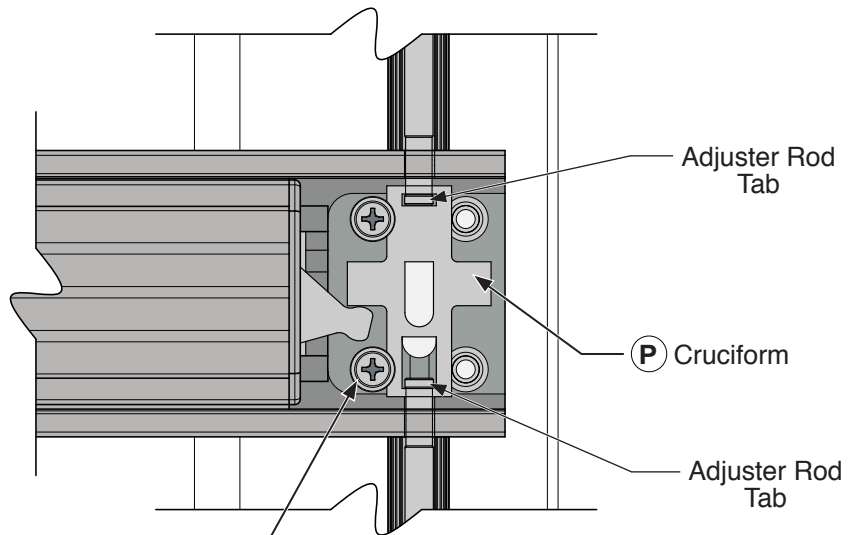
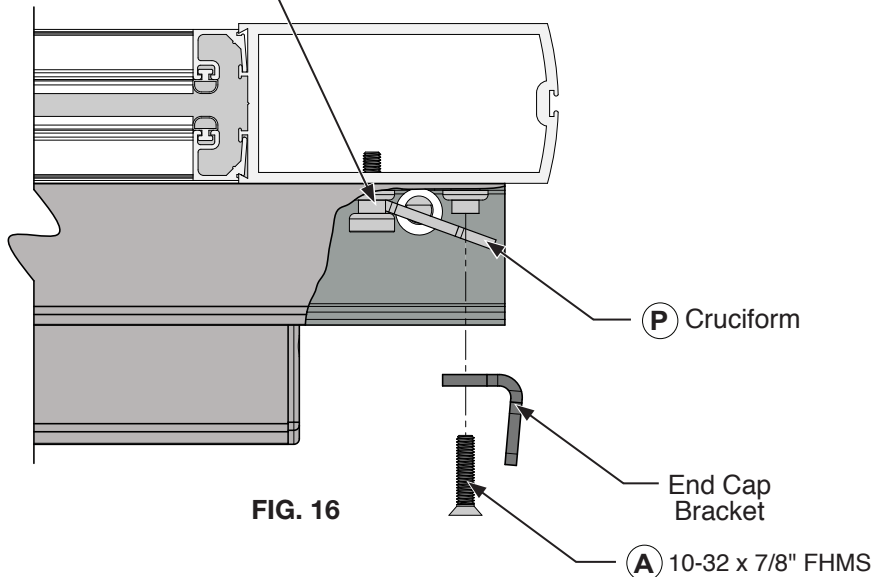

FIG. 15
FIG. 16
2. Slide the cruciform (P) under the fixed rollers (Fig. 16), capture both the upper and bottom adjuster rod tabs, and hold in place. (Fig. 15)
3. Install the end cap bracket over the cruciform (P) with (2) 10-32 x 7/8" FHMS (A) on the active stile. (Fig. 16)